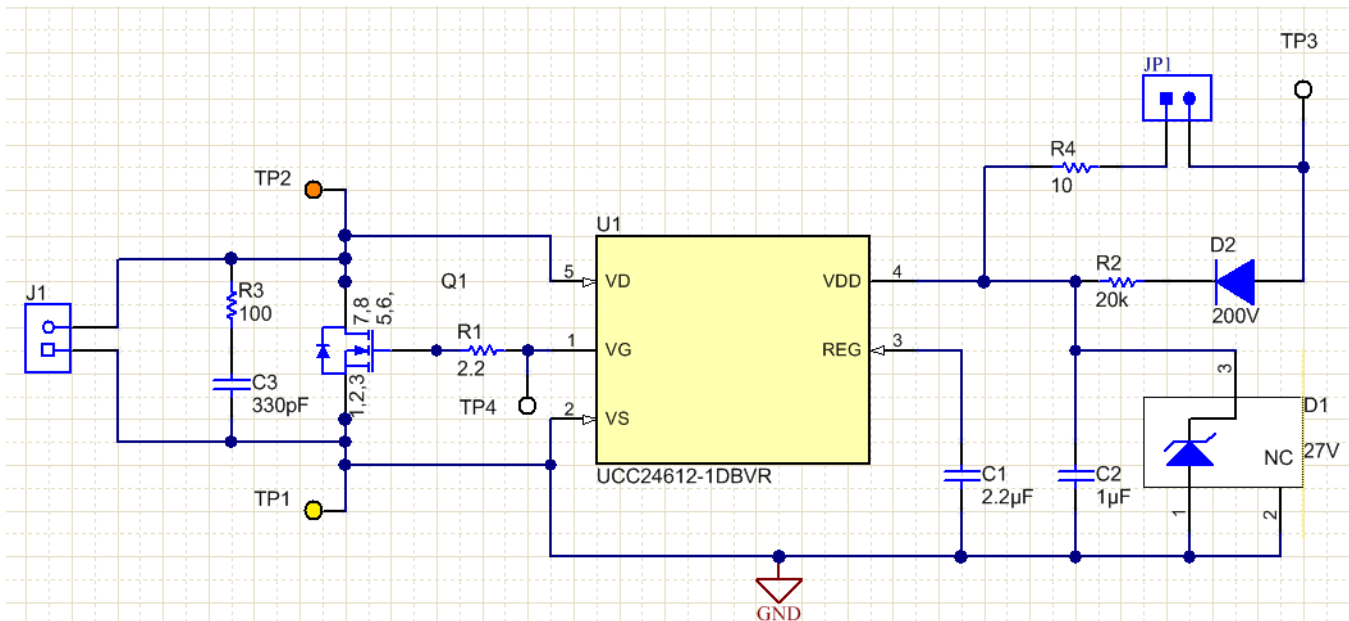
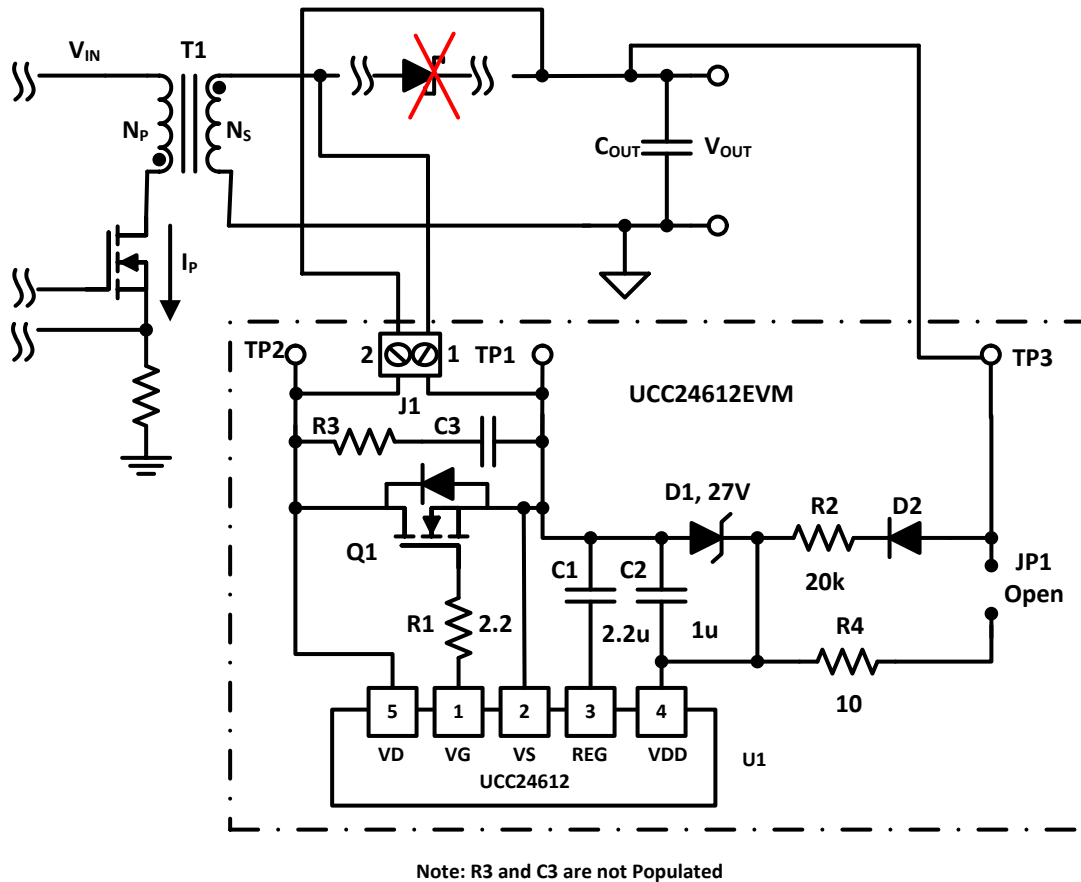

Figure 3. UCC24612-1EVM Schematic
Figure 5. UCC24612-1EVM Used in High-Side Rectifier Application
Four test points and a terminal block provide access to several important nodes in the SR control circuit. Refer to the schematic diagram of the UCC24612-1EVM in Figure 3. In a low-side rectifier application, the EVM can connect directly to the converter's output, provided that the output voltage is in the range of 4 V to 28 V. Please refer to Figure 4 for circuit connections. For high-side rectifier applications please refer to Figure 5 for circuit connections.
The 2-position terminal block is used to connect the on-board MOSFET source and drain nodes to the application using wires. Short lengths of bare wire, 20 AWG – 18 AWG (0.75 – 1 mm diameter), are best but other sizes with or without insulation can be used. Please refer to Figure 4 and Figure 5 for circuit connections.
- JP1 is not populated for high side SR configuration Figure 5.
To use the UCC24612-1EVM to replace a high-side rectifier requires removing jumper JP1 and connecting the EVM as shown in Figure 5. Please note that the EVM comes with a default filtering resistor (R2) of 20 k Ω . **However, resistor R2 needs to be adjusted based on your individual application.**
When the RC filter circuit is used, to engage the gate driver properly it is recommended that the VD voltage applied be between 4 V to 27 V to provide enough energy and voltage to the gate driver. This range can be determined in a fixed frequency flyback converter with the following equations. Variable D_{MAX} in the maximum duty cycle of the converter and D_{MIN} is the minimum duty cycle of the converter. Variable N_p is the flyback transformer's primary (T1) number of turns and N_s is the transformers secondary number of turns. Please refer to figure 5 for details.